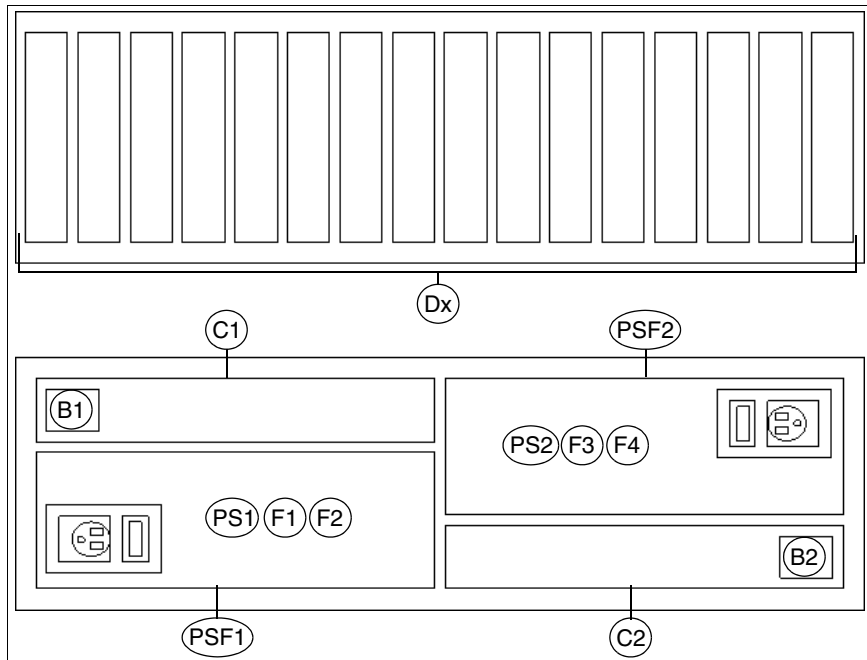

Figure 2-58 DS5020 component locations
This section will show all DS5020 storage subsystem component locations as displayed in Storage Manager (SM) software. Figure 2-58 shows all the DS5020 storage subsystem component locations and Table 2-9 on page 79 describes how they relate to locations shown in Storage Manager software.